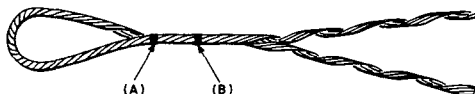

Fig. 7—B Strand Grip
shown in Table-B. The paint mark (A) in Fig. 7 indicates starting or crossover point for all installations except where strain insulators are used. Paint mark (B) indicates crossover point when using strain insulators. Strand grips for 16M and 25M strand have only one paint mark which is the crossover point for all installations.
passed through the opening of the strain insulator and the crossover point starts at point B. (See Fig. 7.)